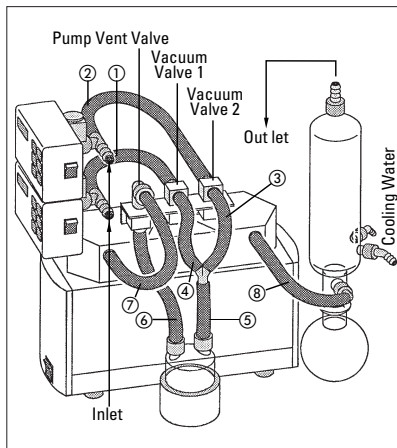

Fig. 13: Tubing System SCC...
- 6 Tubing of two-headed pumps: see figure 13. For tubing of single-headed pumps and pumps with aluminum heads (pump types including an „A“ in the type code), please contact KNF. Choose tube material which is resistant against the media to be used.
- 12 Tubing of two-headed pumps: see figure 13. For tubing of single-headed pumps and pumps with aluminum heads (pump types including an „A“ in the type code), please contact KNF. Choose tube material which is resistant against the media to be used.